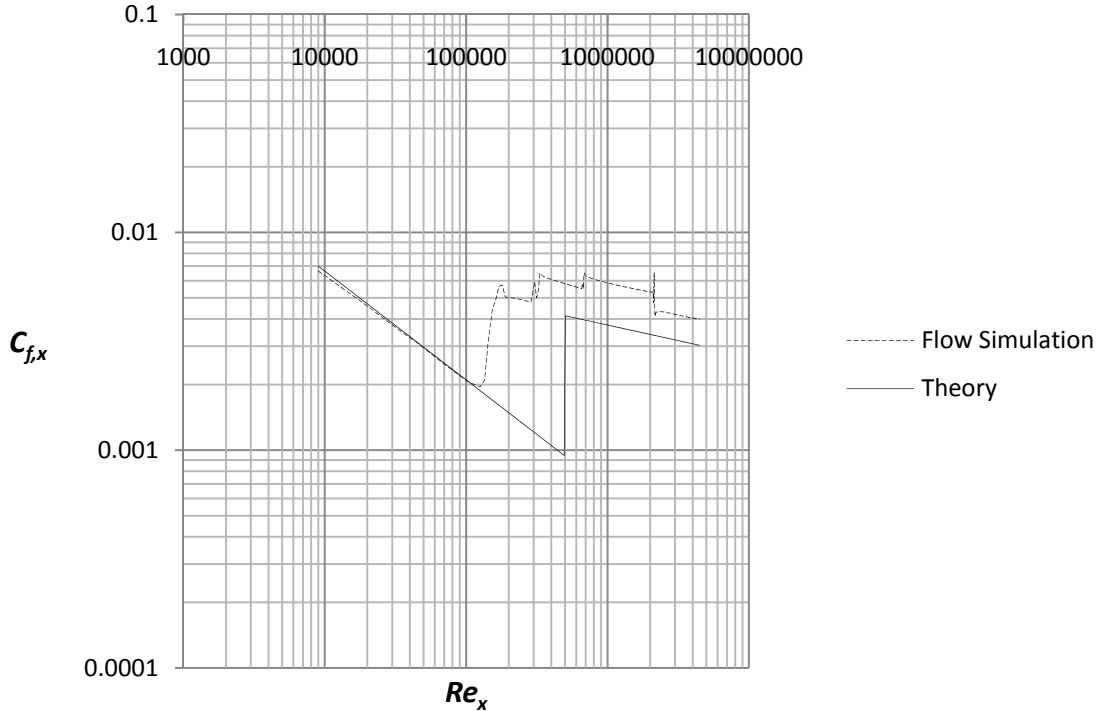

Figure 2.32 A comparison between Flow Simulation (dashed line) and theoretical laminar and empirical turbulent friction coefficients
34. Place the file “xy-plot figure 2.32” into the **Local Disk (C:)/Program Files /SolidWorks Corp/SolidWorks Flow Simulation/lang/english/template/XY-Plots** folder to make it available in the **Template** list. Repeat step 24 and choose the sketch $x = 0 - 0.9$ m, uncheck the box for **X-Component of Velocity** and check the box for **Shear Stress**. Rename the xy-plot to **Local Friction Coefficient for Laminar and Turbulent Boundary Layer**. An Excel file will open with figure 2.32. Figure 2.32 is showing the Flow Simulation is able to capture the local friction coefficient in the laminar region in the Reynolds number range 10,000 – 150,000. At $Re = 150,000$ there is an abrupt increase in the friction coefficient caused by laminar to turbulent